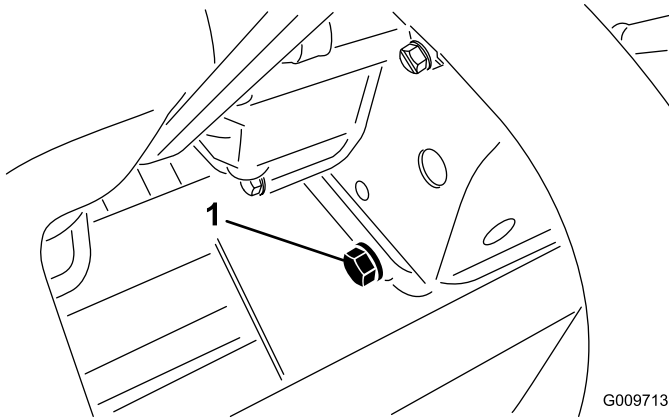

Figure 56
1. Remove the rear drain plug (Figure 56) and let the oil flow into a drain pan. When the oil stops, install the drain plug.